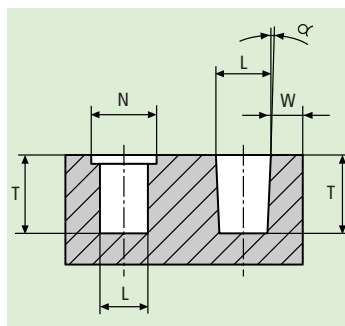

Fig. 23
Hole diameter (L, fig. 23) and wall thicknesses (W) are dependent on the material used for the formed part, the insertion method and the requirements imposed on pull-out resistance / torque safety. Please inquire or ascertain by testing.
(T) \geq length of the S-Lok® + 1 mm. (fig.23).